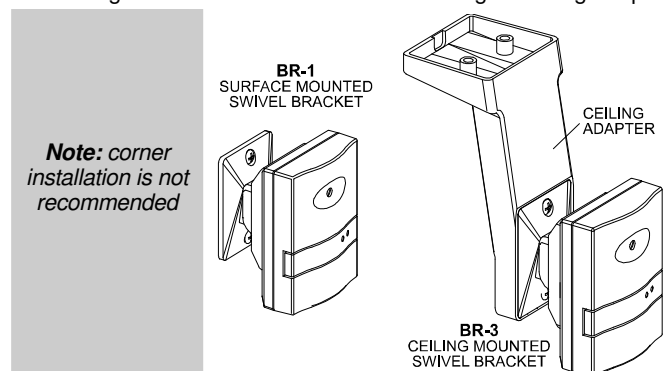

Figure 3. Optional Swivel Mounting Brackets
3.6. Optional Mounting Brackets (Fig. 3)